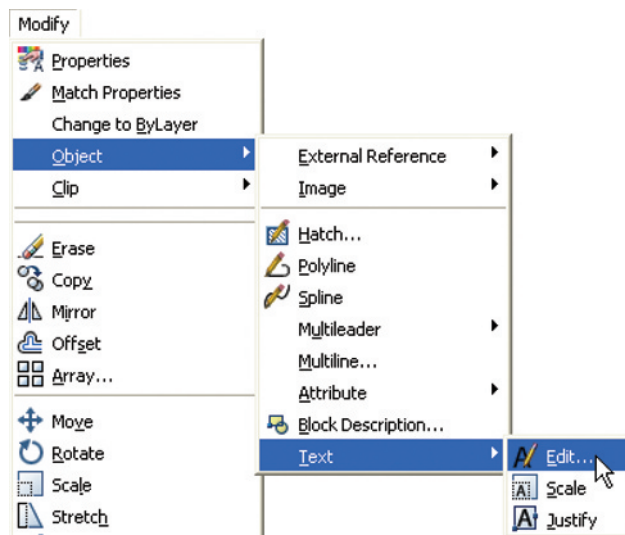

Fig. 6.37 Selecting **Edit...** from the **Text** sub-menu of the **Modify** drop-down menu
2. Left-click on **Edit...** from the sub-menu of **Text** in the **Modify** drop-down menu (Fig. 6.37) or enter **ddedit** at the command line.